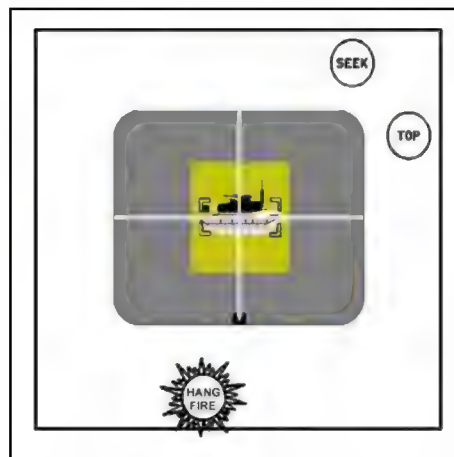

Figure D-10. HANGFIRE indicator.
b. **Possible Reasons.** A hangfire occurs when the gunner squeezes the fire trigger but the missile does not launch and the **HANGFIRE** indicator flashes on the CLU display (Figures D-10). If a hangfire occurs during a combat situation, release the fire and seeker triggers. Continue pointing the missile in the direction of the enemy target for at least 60 seconds. After waiting 60 seconds, perform the following procedures (Table D-9).